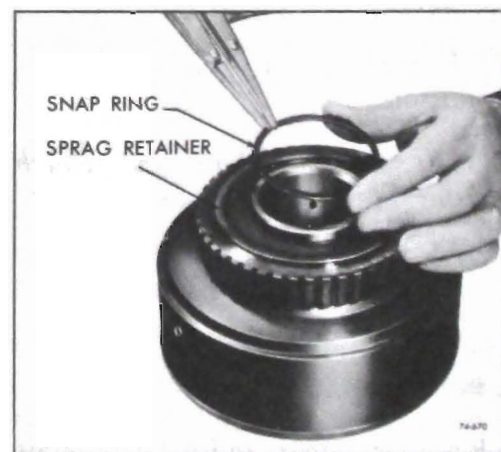

Figure 76-670
1. Remove sprag retainer snap ring and retainer. See Figure 76-670.